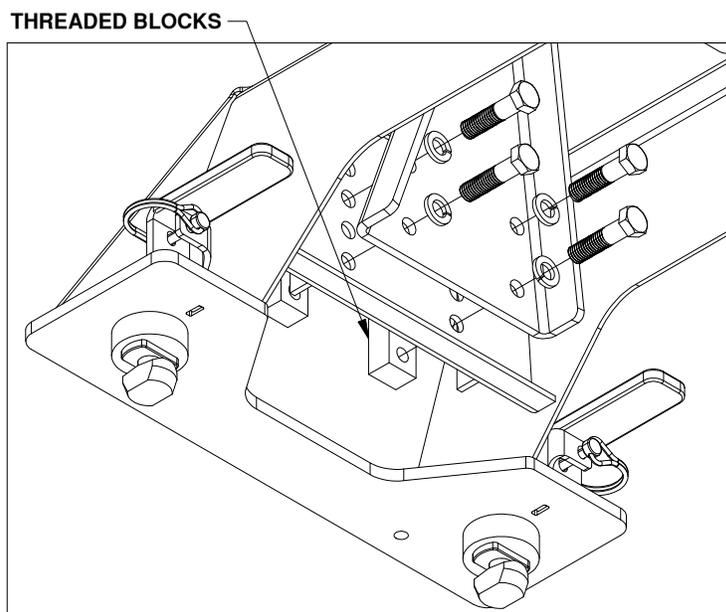

Figure A2: Passenger pivot arm mounting location.
2. **Secure arms.** Locate both pivot arms, the four threaded blocks, eight 1/2" cap screws, and eight 1/2" split lock washers. Place the lock washers over the cap screws. Align the flat side of the pivot arm flat against the bolt plate and install four 1/2" cap screws through the holes on the arm, holding the arm in place, as shown in Figure A2. Pass the threaded blocks under the base and align the block with each set of screws and start each screw, as shown in Figure A2. Note that the sides of the block have threaded holes on one side and smooth bored holes on the other side. When installing the threaded blocks it is critical that the side with the smooth holes is flat against the bolt plate when installed. After all the screws are started through the arms, torque each bolt to 80 ft-lbs.